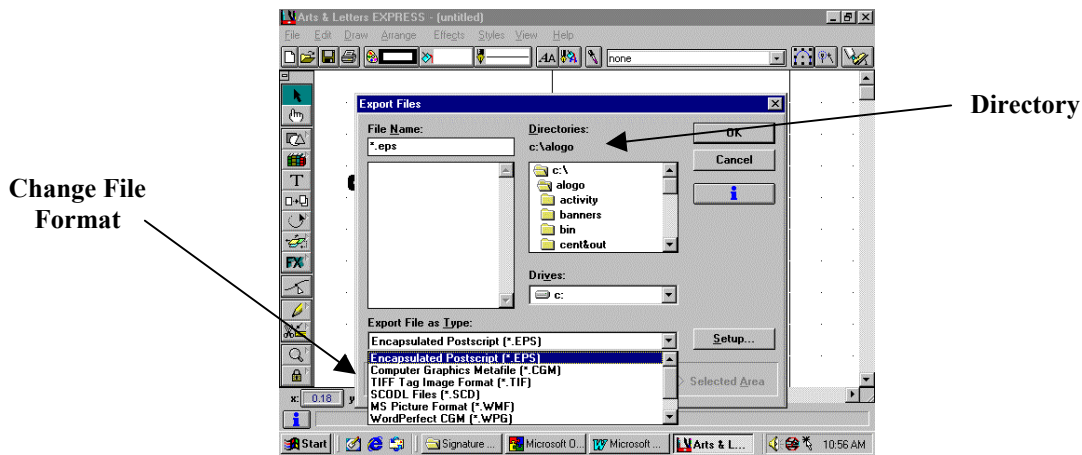

Figure 3
12. Once you have everything sized and positioned, click on **File, Export**. If necessary, change the file type to **.tif** and name the file. Example: **aaa.tif**. Be sure the directory is: **C:\ALOGO** (See Figure 3)